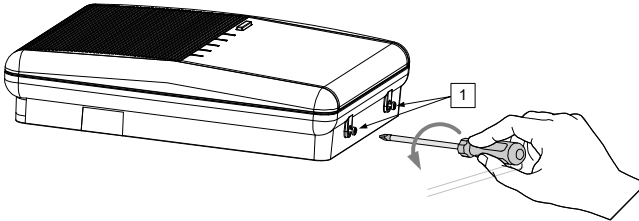

Figure 1: Mounting Bracket screws
2. Release the mounting bracket captive locking screws (Figure 1, detail 1) located at the bottom of the unit, by turning screws counter-clockwise.